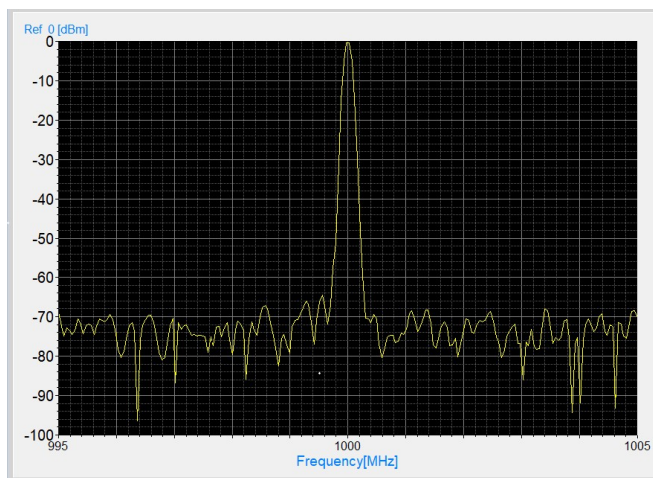

Fig.14 1GHz Signal in Linear Freq Sweep default Setting
- Select **Linear Frequency Sweep** in the Mode menu. The key switches to **ON**, and the device enters the default settings: **Freq = 1 GHz, SPAN = 10 MHz, RBW = 100 kHz, Amplitude = 0 dBm** (see Fig. 14).